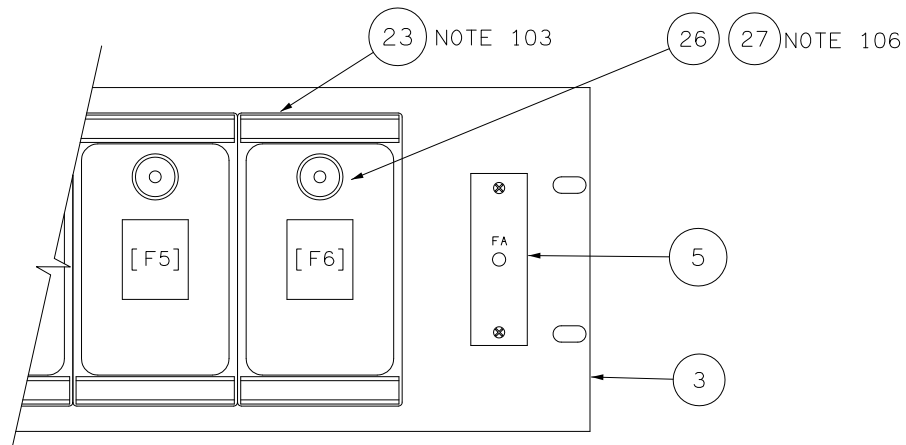

FIGURE A1
55. AMMETER SHUNTS ARE NORMALLY 200 AMPS 50mV; HOWEVER, CURRENT RATINGS UP TO 600 AMPS MAY BE SPECIFIED. SEE FIGURE A1, SECTION A-A FOR SHUNT AND BUSWORK DETAILS.